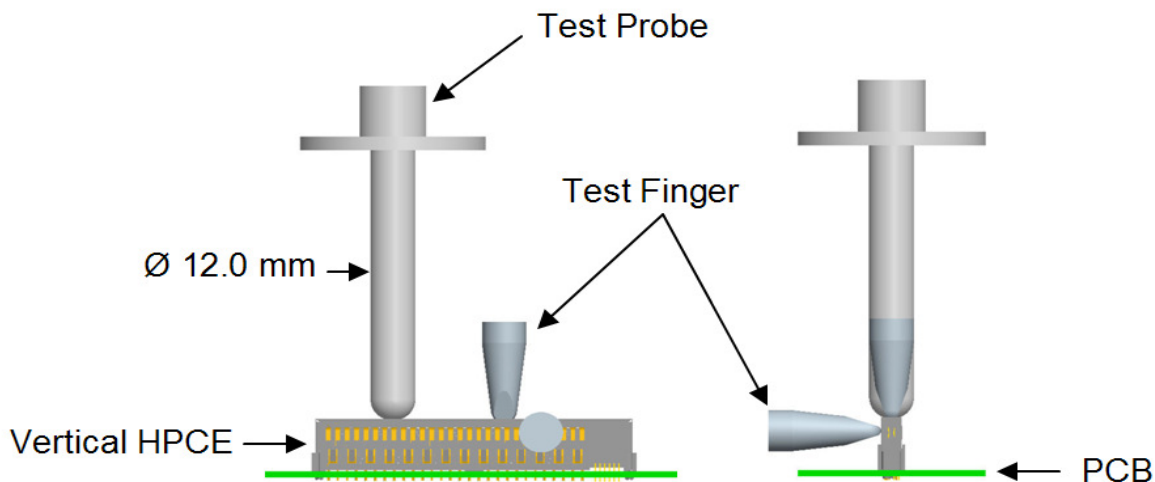

Figure 6
- **Test Finger** (Figure 6)
- **Test Probe** (Figure 6)